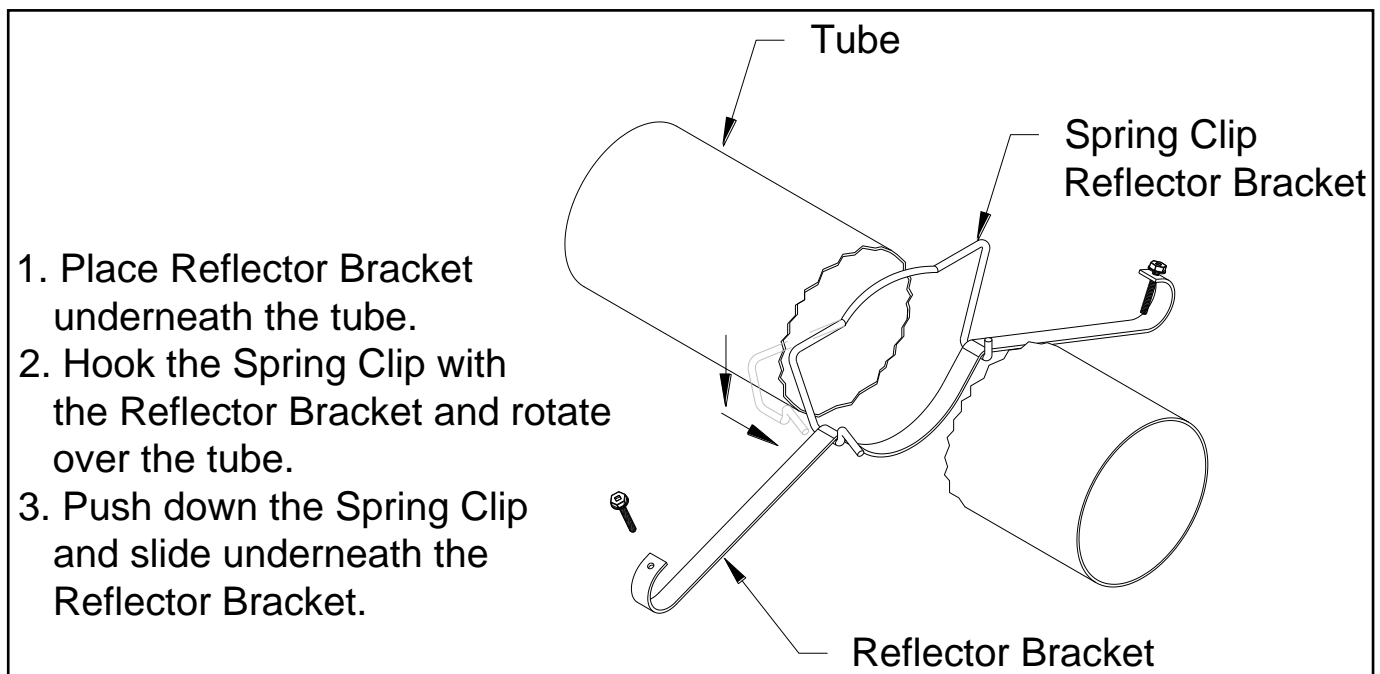

Figure 15: Reflector Support Bracket Installation
- Install reflector support brackets, one at each reflector overlap position, and one in the middle of each 10' reflector length. Figure 15 shows the installation of the reflector support bracket.